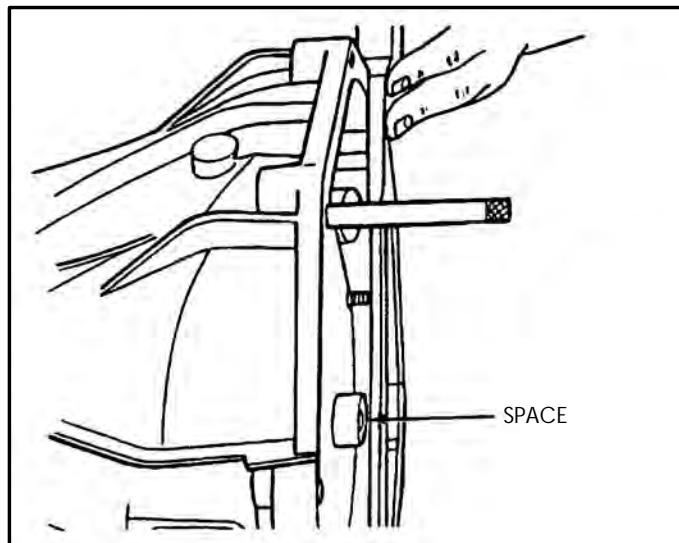

Figure 205
11. Install torque converter and check the seating by placing a straight-edge across the front of case, as shown in Figure 205.
12. Ensure that there is a gap between the converter pilot face and the straight-edge, as shown in Figure 205.